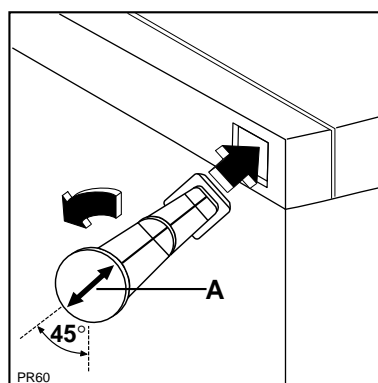

Fig. 3
The plastic bag containing all relevant documentation also contains two spacers to be fitted into special holes in the back of the appliance. Fit the spacers into the holes, taking care to ensure that the arrow (A) is positioned as shown in Fig. 3. Then turn them through 45° (arrow (A) vertical) until they lock into place.